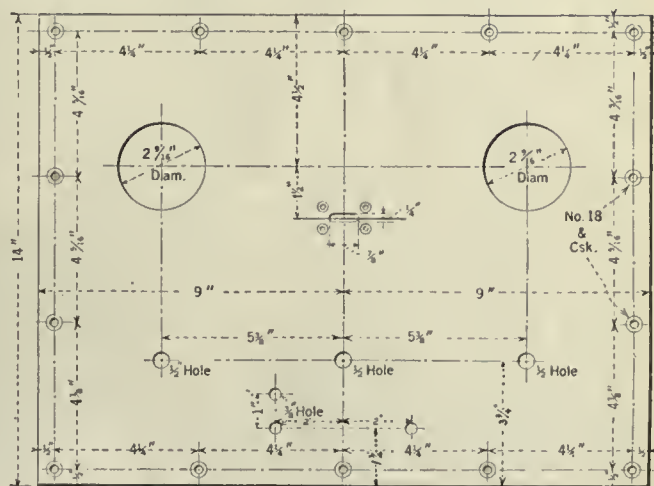

FIG. 12
- (2) Lay out and drill the main panel in accordance with Fig. 12.
- (3) Mount the various instruments on the panel and then fasten it to the wooden frame.
- (4) Remove the shelf from the frame and mount the various instruments as shown in the illustrations.
- (5) On the floor of the frame mount the batteries, choke, and modulation transformer.
- (6) Drill  $\frac{3}{16}$ " holes through the shelf at the points where connections are to be made to the tuning condensers.
- (7) Run long bus bar connections from the terminals of the three tuning condensers to points tallying with the position of the holes previously made in the shelf.
- (8) Mount the shelf in place, passing the wires from the condensers through the holes in the shelf.
- (9) Complete the connection of these wires to the coils.
- (10) Wire the rest of the transmitter using No. 18 lamp cord for the power and filament leads and bus bar for the "hot" connections—i.e., grid and plate leads.